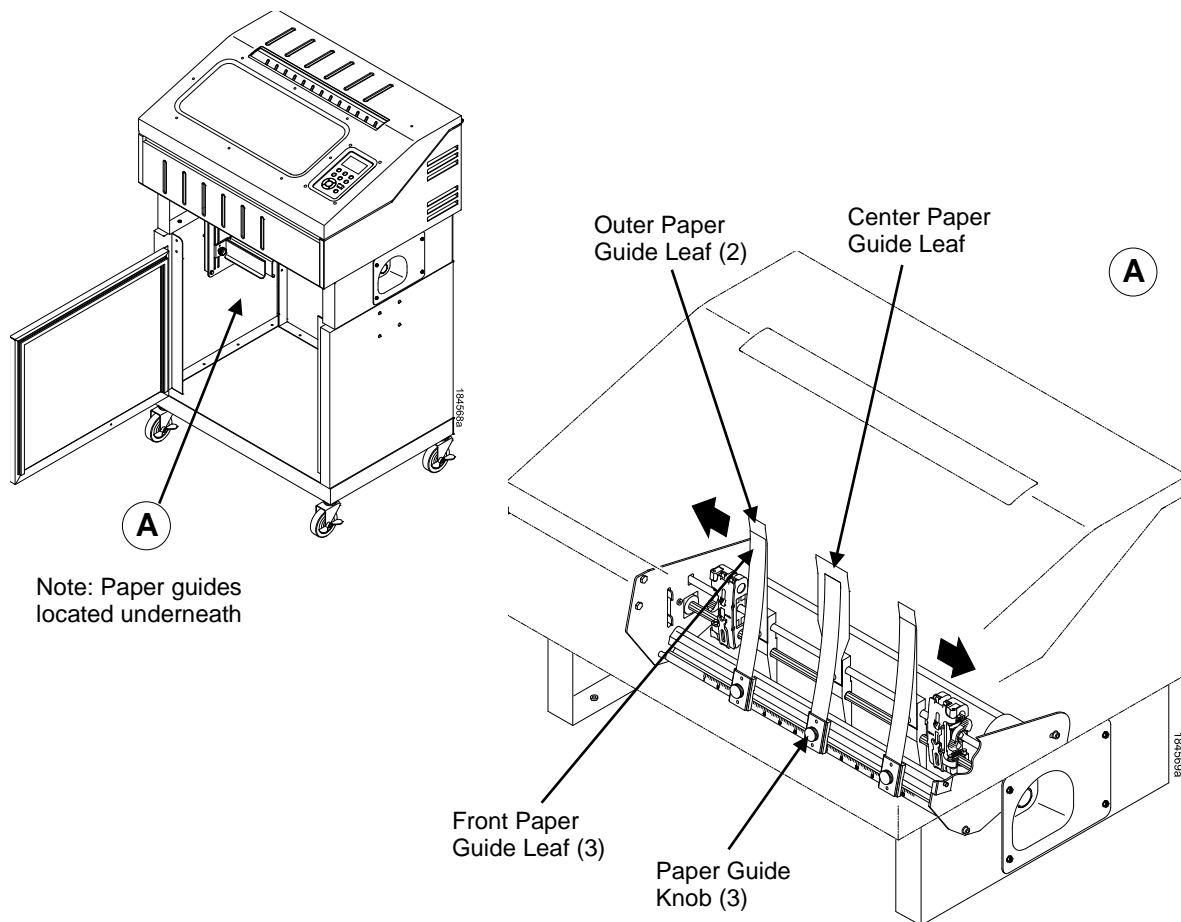

Figure 36 Adjusting the Paper Guides
1. Remove the left paper guide knob and the left, front paper guide leaf. (See Figure 36.)
7. Install the paper guide knobs and front paper guide leaves. (See Figure 36.)